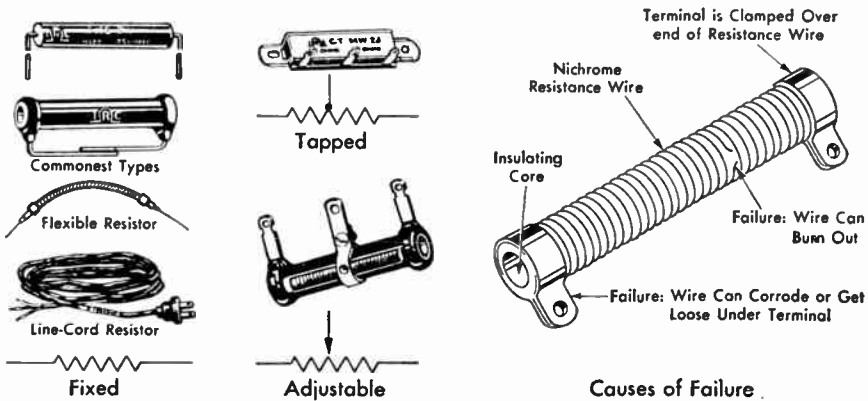

Fig. 1. Examples of three types of wire-wound resistors, along with their symbols and common causes of trouble in any wire-wound resistor
**Wire-wound Resistors.** Though no two look alike, all of the resistors in Fig. 1 are made the same way, by winding a length of Nichrome resistance wire around a ceramic, glass, fiber, or asbestos form. For this reason, they are called wire-wound resistors. The wire used is just like that in the heating elements of electric stoves, but usually much thinner.
Sometimes a bad contact develops between the resistance wire and a terminal of the resistor, as shown in Fig. 1. This may actually open up
Tapped resistors use the standard resistor symbol on circuit diagrams, with lines going to various points along the zigzag symbol to represent the taps, as in Fig. 1. Sometimes dots are used at the connecting points on the resistor symbol to indicate a connection, but more often no dots are shown.